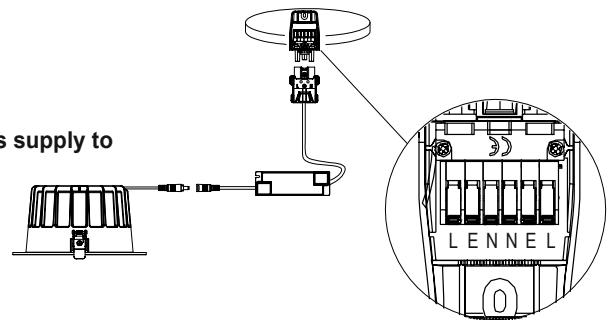

Fig. 3
- Fit the downlight into the hole (see fig. 3) in the ceiling with the 2 spring clips supplied. (see fig. 4)